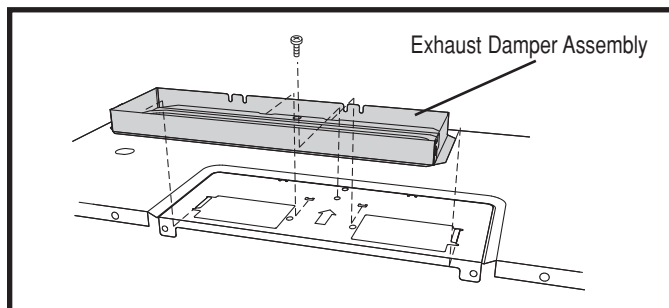

Figure 15
6. Attach the Exhaust Damper Assembly ⑨ to the fan cover on the top of the outercase cabinet by sliding it into the slits in the same direction as the arrow. Use 1 Tapping Screw 4 X12 mm ⑤ from the INSTALLATION HARDWARE and tighten into place. See Figure 15.